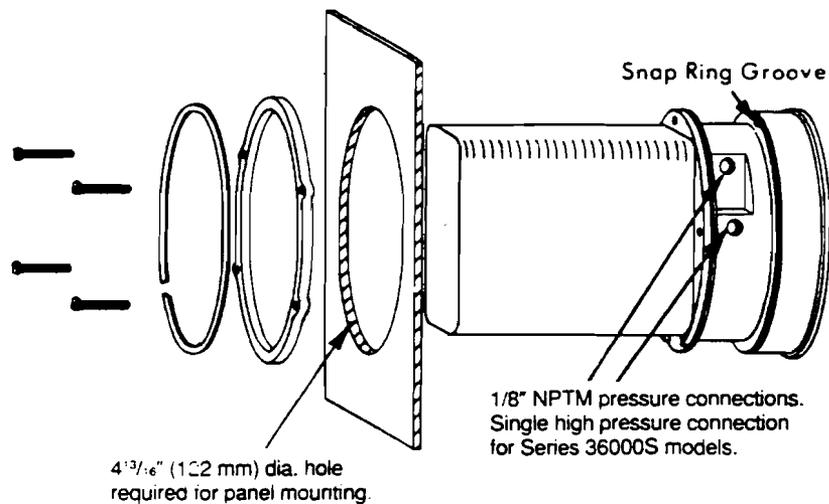

Figure 2
- A. **Panel Mounting:** Normal mounting is flush or through panel as shown in Fig. 2. Be sure to allow 4-3/8" extra space behind the unit for electrical enclosure removal. Make a single 4 13/16" diameter hole in the panel. Insert the entire PHOTOHELIC[®] unit from the front, then slip on the mounting ring and snap ring from the rear. Seat the snap ring in its groove, back up the mounting ring against snap ring and tighten the four (4) 2" No. 6-32 clamp screws provided. If behind panel space is critical, the amplifier-relay unit can be mounted remotely. See the Remote-Relay Mounting Instructions for details.
B. Gage Mountings with Relays Remote: Where it is desirable to mount the amplifier-relay unit separate from the gage-phototransistor unit, the gage may be mounted either as shown in Fig. 2 (except less amplifier-relay portion) or surface mounted as shown in Fig. 3A. Use the layout shown in Fig. 3B to locate holes. The complete package cannot be surface mounted.